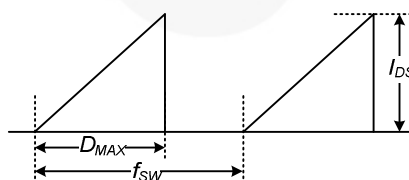

Figure 4. Repetitive Peak Switching Current
6. Repetitive peak switching current when the inductive load is assumed: Limited by maximum duty ($D_{MAX}=0.83$) and junction temperature (see Figure 4).